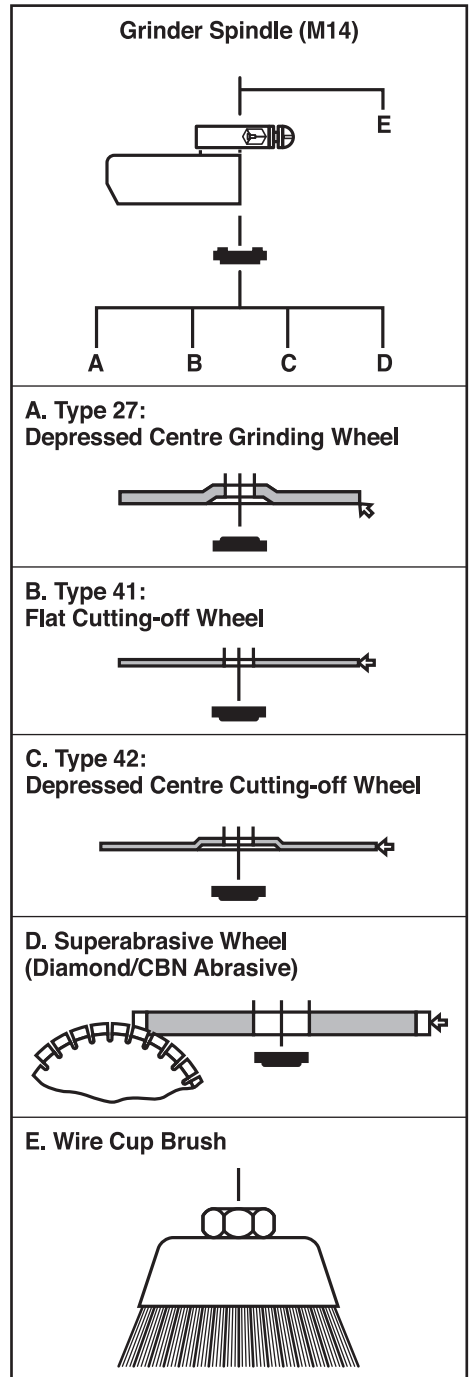

FIG.3
## 8.3 FITTING/REPLACING ACCESSORIES (sold separately) – FIGS. 3 – 5
#### B, C, D (FIG.3):
- Press and hold the spindle lock button (3).
- Loosen the locking flange (4) anti-clockwise using the pin spanner (7) supplied.
- When fitting the appropriate accessory please refer to (FIG.3, on page 14) for specific details on the locking flange correct orientation as applicable.
- Securely tighten the locking flange clockwise using the pin spanner while holding down the spindle lock (3).
**Warning!** Never press the spindle lock button (3) while the spindle is in motion.